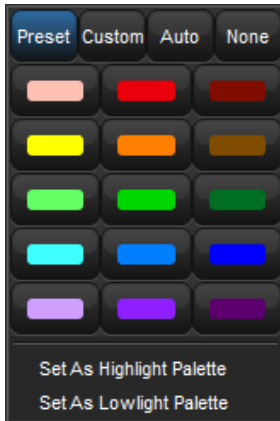

Figure 2.11. The Preset Colour Options
2. Click on one of the 15 options shown in *Figure 2.11, "The Preset Colour Options"* to assign the directory item this colour.